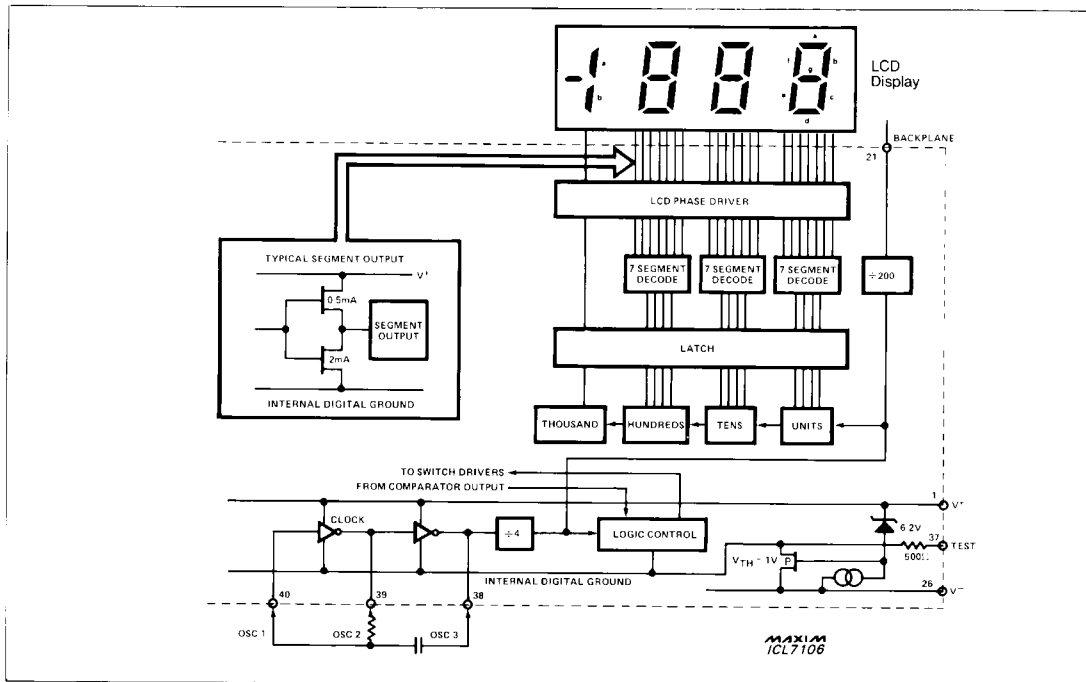

Figure 8. ICL7106 Digital Section
The digital section for the ICL7106 and ICL7107 is illustrated in Figures 8 and 9. In Figure 8, an internal digital ground is generated from a 6V zener diode and a large P-channel source follower. This supply is made stiff to absorb the large capacitive currents when the back plane (BP) voltage is switched. The BP frequency is calculated by dividing the clock frequency by 800. For example, with a clock frequency of 48kHz (3 readings per second), the backplane will be a 60Hz square wave with a nominal amplitude of 5V. The segments are driven at the same frequency and amplitude. Note that these are out-of-phase when the segment is ON and in-phase when OFF. Negligible dc voltage exists across the segments in either case.